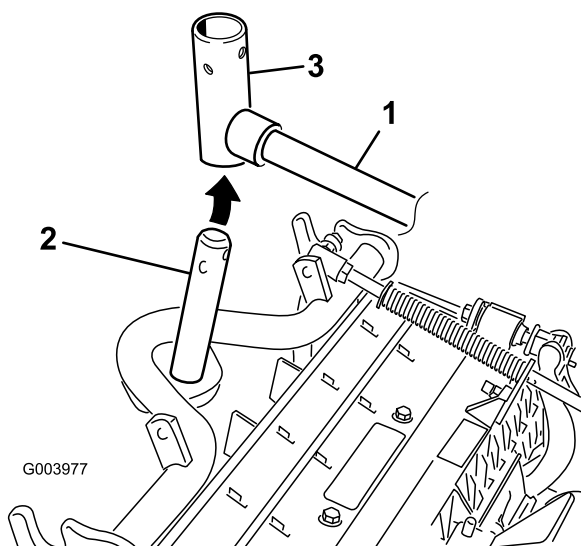

Figure 10
8. For the front cutting units, slide a cutting unit under the lift arm while inserting the carrier frame shaft up into the lift arm pivot yoke (Figure 10).
- B. Insert the lift arm yoke onto the carrier frame shaft (Figure 10).